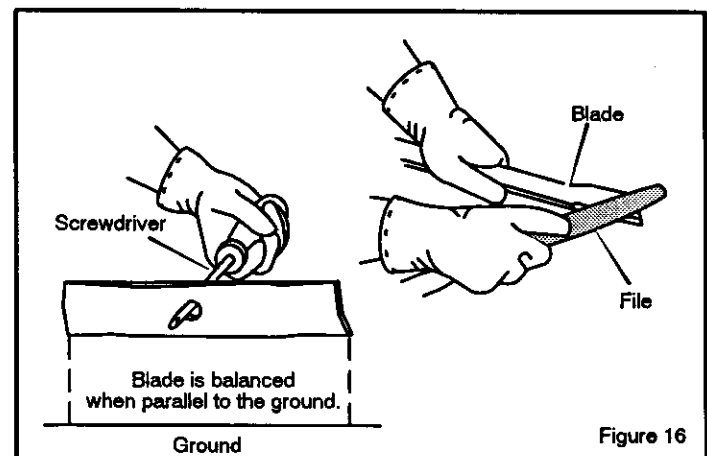

Figure 16
4. Sharpen the blade with a file (Figure 16). Make sure you keep the original bevel angle.
5. Make sure the blade is balanced. Use a screwdriver and hold the blade parallel to the ground (Figure 16). A blade that is balanced will stay parallel to the ground. If the blade is not balanced, the heavy end will rotate toward the ground. Sharpen the heavy end until the blade is balanced.